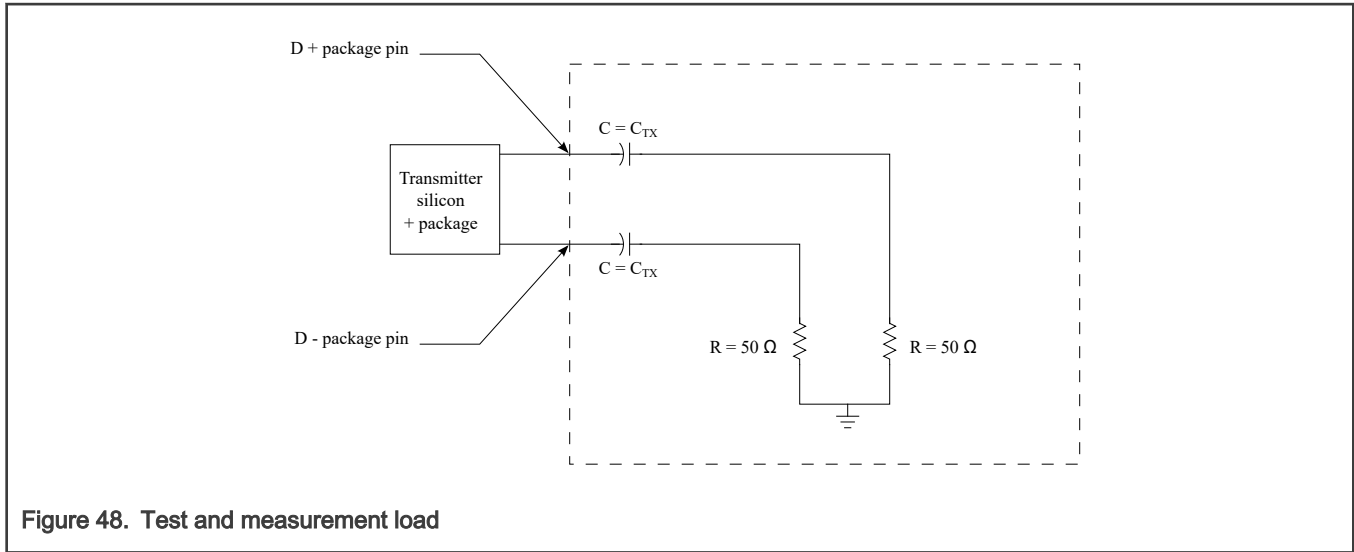

Figure 48. Test and measurement load
5. See Figure 48.
<p>1. Each UI is 200 ps <math>\pm</math> 300 ppm. UI does not account for spread-spectrum clock dictated variations.</p> <p>2. The maximum transmitter jitter can be derived as <math>T_{TX-MAX-JITTER} = 1 - T_{TX-EYE} = 0.25</math> UI. Does not include spread-spectrum or REFCLK jitter. Includes devices random jitter at <math>10^{-12}</math>.</p> <p>3. Specified at the measurement point into a timing and voltage test load and measured over any 250 consecutive transmitter Uis.</p> <p>4. A <math>T_{TX-EYE} - 0.75</math> UI provides for a a total sum of deterministic and random jitter budget of <math>T_{TX-JITTER-MAX} = 0.25</math> UI for the transmitter collected over any 250 consecutive transmitter Uis. The <math>T_{TX-EYE-MEDIAN-to-MAX-JITTER}</math> median is less than half of the total transmitter budget collected over any 250 consecutive transmitter UIs. It must be noted that the median is not the same as the mean. The jitter median describes the point in time where the number of jitter points on either side is approximately equal as opposed to the averaged time value.</p> <p>5. See <a href="#">Figure 48</a>.</p> <p>6. Reference input clock RMS jitter (&lt; 1.5 MHz) at pin &lt; 1 ps.</p>